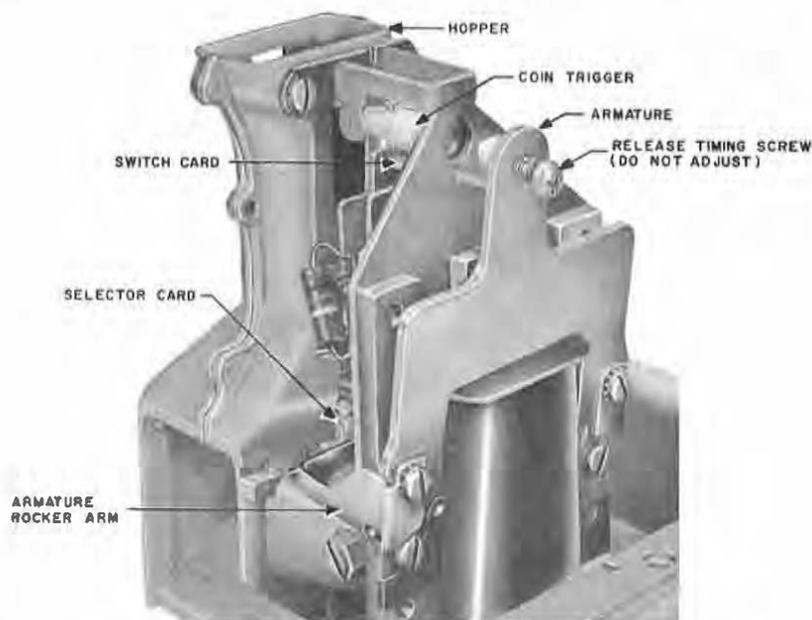

Fig. 1 — P-10E683 Mechanism Unit with P-13E961 Coin Relay
1.01 This section covers specific items of maintenance required for prepay coin collectors of the 200 series only. These items cover the single-coil coin relay and coin hopper (Fig. 1) and are in addition to appropriate items covered in the maintenance section on single-coil coin collectors.